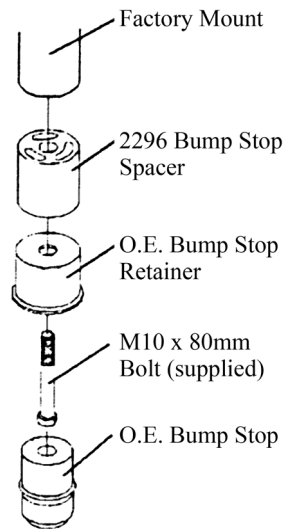

Figure 6
15. Install the provided 2" bump stop spacer between the factory retainer cup and the frame with a 10mm x 80mm bolt. Torque the bolt to 30 ft-lbs. Reinstall the factory rubber bump stop in the retainer **Figure 6**.